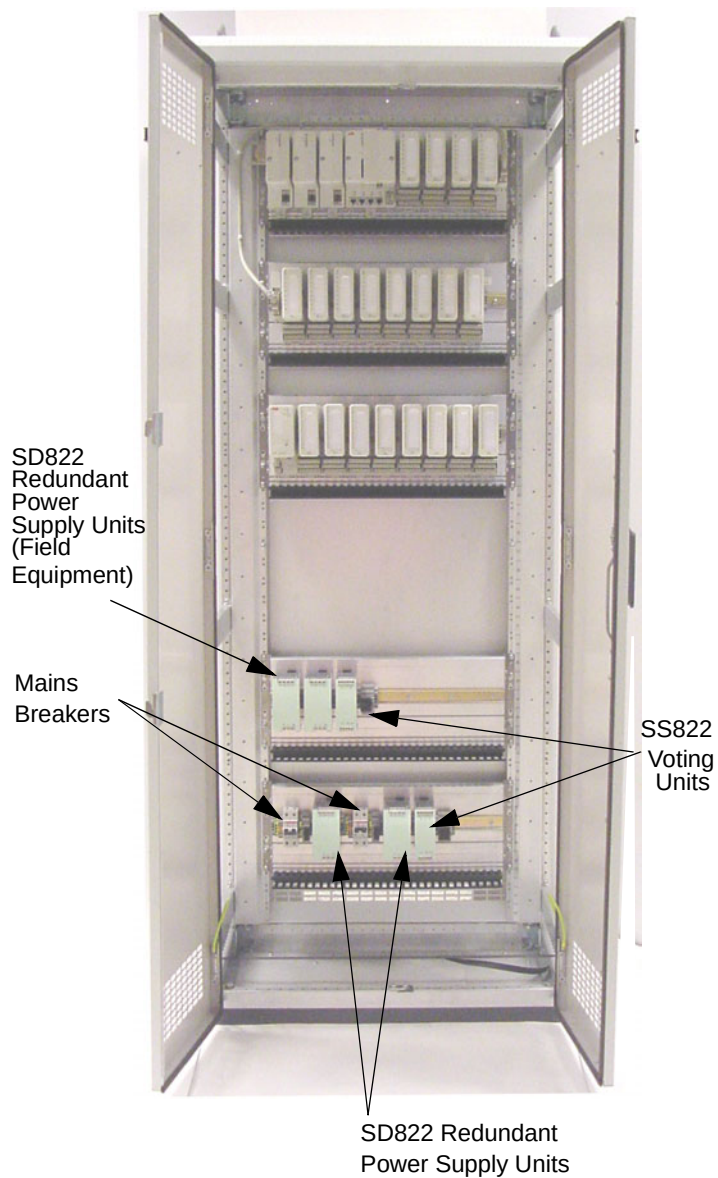

Figure 25. Floor Mounted Cabinet (Horizontal Unit Arrangement)
- Figure 25 on page 89: Floor Mounted Cabinet – Unit Arrangement (Redundant PSU)